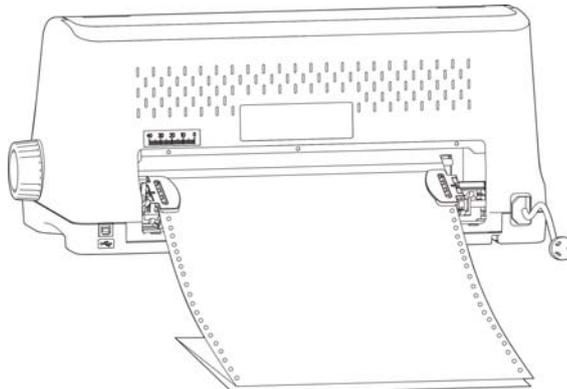

Figure 3-9 Install continuous paper to the tractor
4. Open the sprocket wheel covers and install the paper on the sprocket pins (as shown in Figure 3-9).